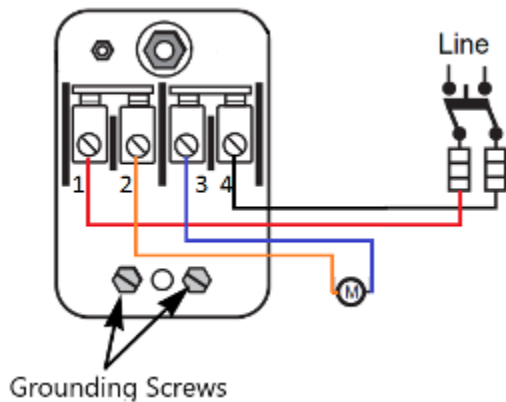

Figure 67. Pressure switch wiring
The pressure switch is a double pole single throw switch (Figure 67). First connect the ground wire to one of the grounding connections. The incoming power leads are connected to the two outer screws (1 & 4). The inner screws (2 & 3) are responsible for linking to the motor supply in the case of a two-wire submersible pump, or connecting to the L1 and L2 terminals in the control box for a three-wire pump.
- Figure 67. “Pressure switch wiring” by Camosun College is licensed under a CC BY-NC-SA licence.